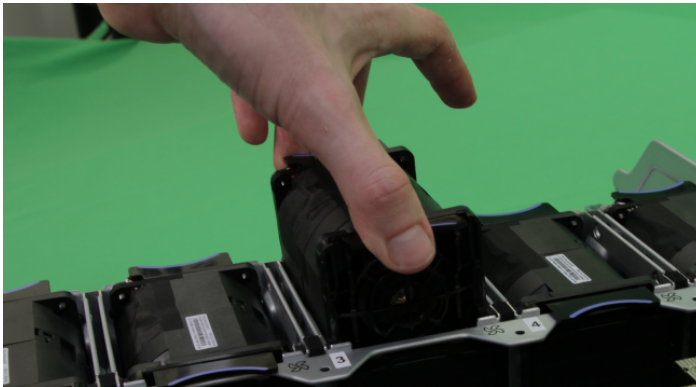

Figure 46. Removing the fan module
6. Hold the fan module between your finger and thumb at the blue touch points. Squeeze gently and lift the fan module out of the node canister, as Figure 46 on page 85 shows.